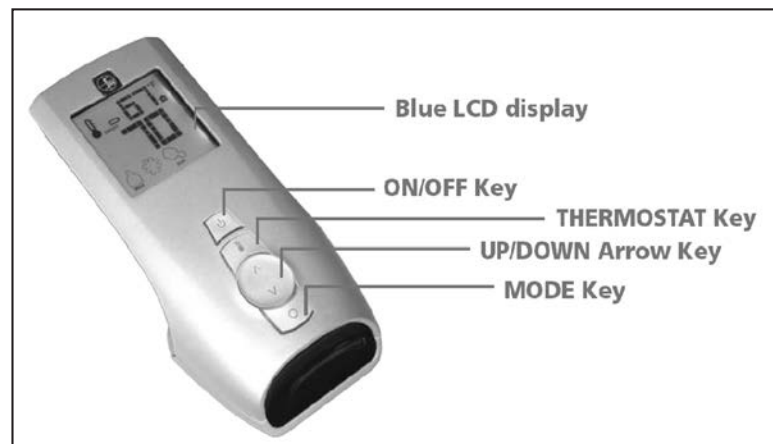
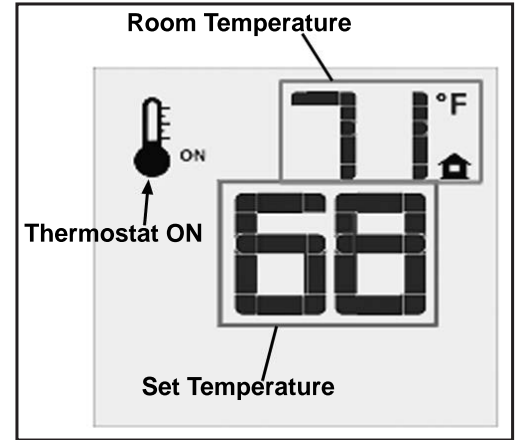
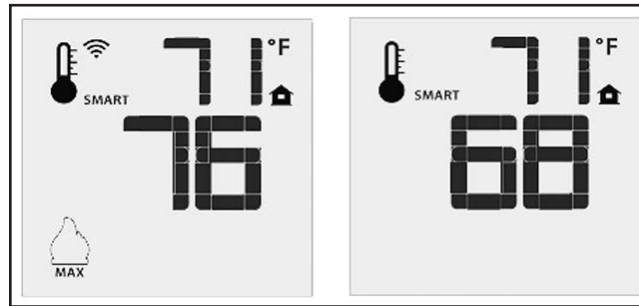
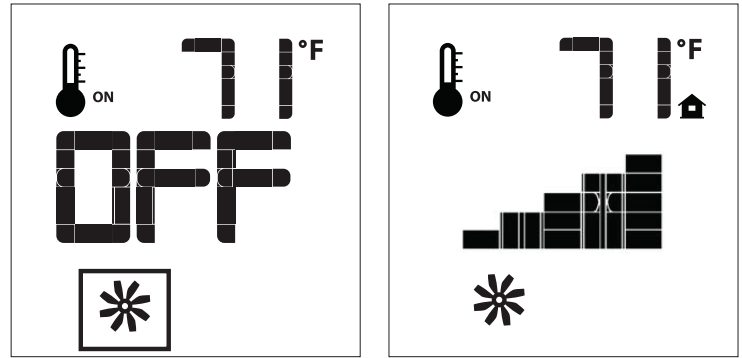

Figure 5: Proflame 2 Transmitter.
Figure 10: Remote Control Displays Set Temperature.
Figure 11: Remote Control's Smart Flame Function.
Figure 13: Fan Control
The Proflame 2 Transmitter is a remote control with a blue backlit lcd display. It uses a streamline design with a simple button layout and informative lcd readout (Figure 5). The Transmitter is powered by three (3) AAA type batteries. A Mode Key is provided to Index between the features and a Thermostat Key is used to turn on/off or index through Thermostat functions (Figure 5 & 6)
Press the ON/OFF Key on the Transmitter. The Transmitter LCD display will only show the room temperature and Icon (see Figure 10). A single "beep" from the IFC confirms reception of the command and both the pilot light (if the unit is not set to continuous pilot) and main burner will turn off.
The Remote Control can operate as a room thermostat. The thermostat can be set to a desired temperature to control the comfort level in a room. To activate this function, press the Thermostat Key (see Figure 5). The LCD display on the Transmitter will change to show that the room thermostat is "ON" and the set temperature is now displayed (see Figure 10). To adjust the set temperature, press the Up or Down Arrow Keys until the desired set temperature is displayed on the LCD screen of the Transmitter.
The Smart Thermostat function adjusts the flame height in accordance to the difference between the set point temperature and the actual room temperatures. As the room temperature gets closer to the set point the Smart Function will modulate the flame down. To activate this function, press the Thermostat Key (Figure 5) until the word "SMART" appears to the right of the temperature bulb graphic (Figure 11). To adjust the set temperature, press the Up or Down Arrow Keys until the desired set temperature is displayed on the LCD screen of the Transmitter.
The Q1LI comes with a convection fan that can be controlled with the Transmitter. The fan speed can be adjusted through six (6) speeds. To control the fan press the MODE key (Figure 5) to index to the fan control icon (Figure 13). Use the UP/DOWN arrow keys to turn on, off, or adjust the fan speed (Figure 13). A single beep from the IFC will confirm the command has been received